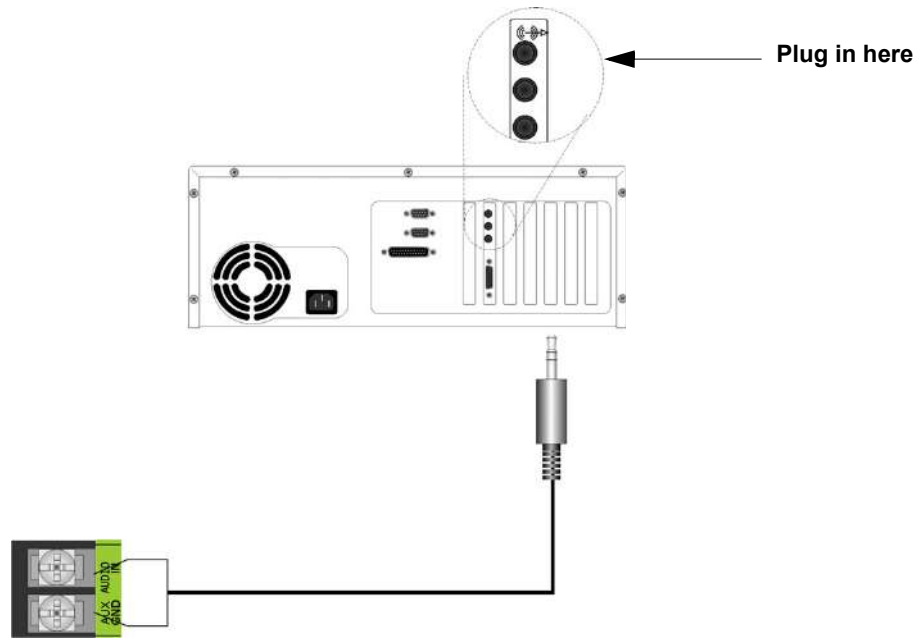

Figure 11.5 Aux Audio Connection for Recording
1. Wire a speaker cable with 1/8" mini plug to the Aux AUDIO GND and IN terminals. Refer to Figure 11.5.
2. Plug the mini plug into the Line Out/Headphone jack on a PC or laptop. See Figure 11.5.